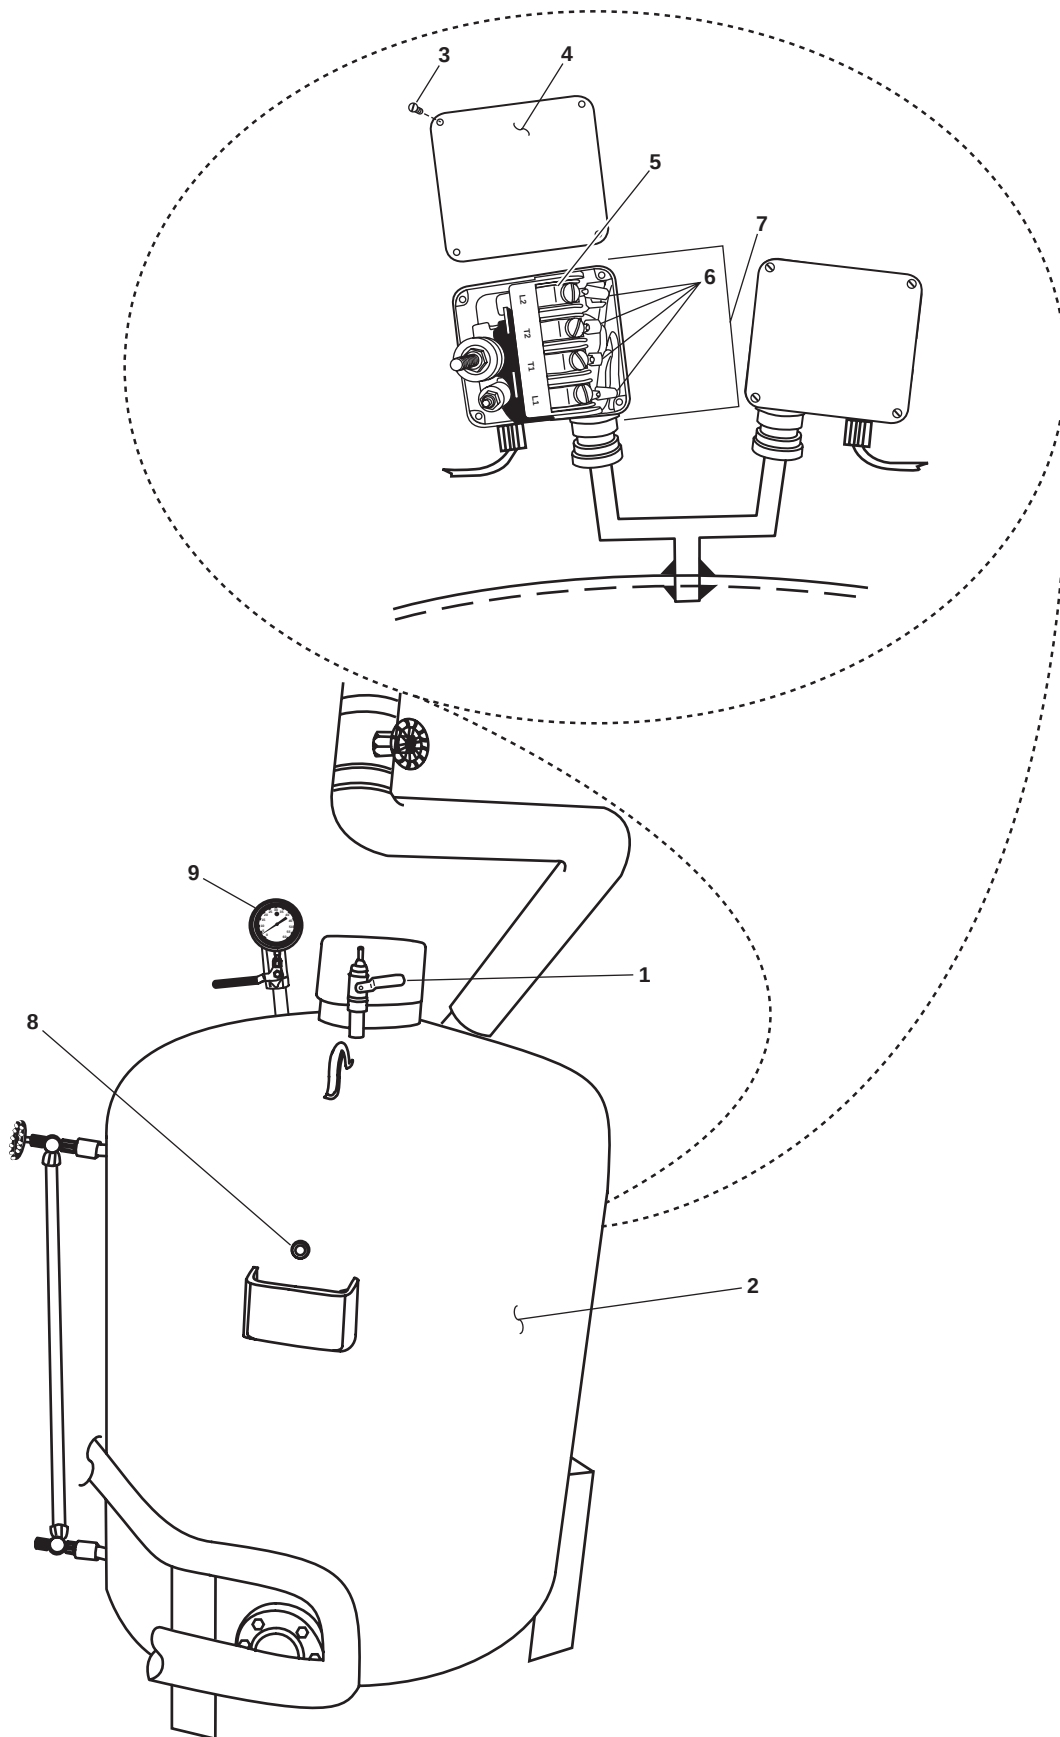

Figure 1. The Hydropneumatic Tank Pressure Switch
1. OPEN the hydropneumatic tank air charging connection valve (figure 1, item 1) to relieve the pressure in the hydropneumatic tank (figure 1, item 2).
2. Remove the four screws (figure 1, item 3) from the pressure switch cover (figure 1, item 4).
3. Using a multimeter, check for voltage at the pressure switch terminals (figure 1, item 5). If voltage is present, check that the proper circuit breaker is locked out and tagged out (FM 55-502). If no voltage is present, continue with the procedure.
4. Label and disconnect the wiring (figure 1, item 6) from the pressure switch (figure 1, item 7).
5. Remove the pressure switch (figure 1, item 7) from the hydropneumatic tank (figure 1, item 2).
1. Place antiseizing tape on the male threads of the hydropneumatic tank (figure 1, item 2) pressure switch connection.
2. Install the pressure switch (figure 1, item 7) on the hydropneumatic tank (figure 1, item 2).
3. Connect the wiring (figure 1, item 6) to the pressure switch (figure 1, item 7) using the labels from step 4 of Removal as a guide. Remove the labels.
- a. Verify that the hydropneumatic tank vent valve (figure 1, item 8) is CLOSED.
- b. Connect the end of the charging air hose to the air charging connection valve (figure 1, item 1) on the hydropneumatic tank.